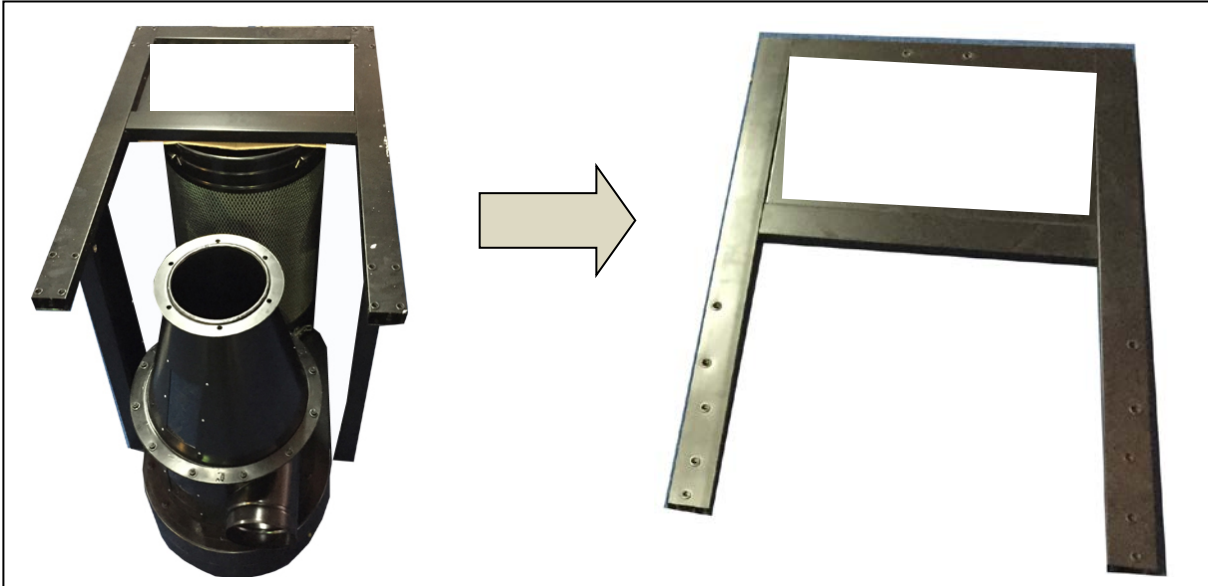

Figure 8: Removing base
2. Remove the base which has been bolted to the (3) top upright supports, Fig. 8).